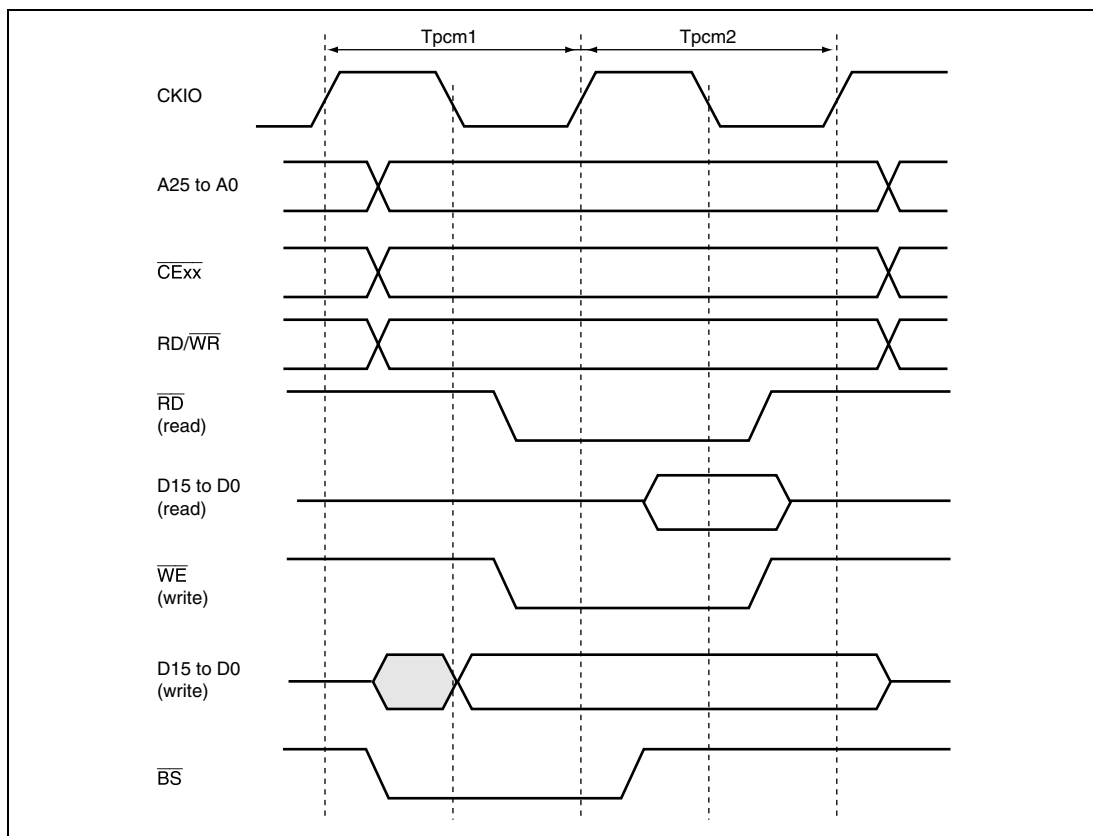

**Figure 8.32 Basic Timing for PCMCIA Memory Card Interface**
**Memory Card Interface Basic Timing:** Figure 8.32 shows the basic timing for the PCMCIA IC memory card interface. When physical space areas 5 and 6 are designated as PCMCIA interface areas, bus accesses are automatically performed as IC memory card interface accesses.